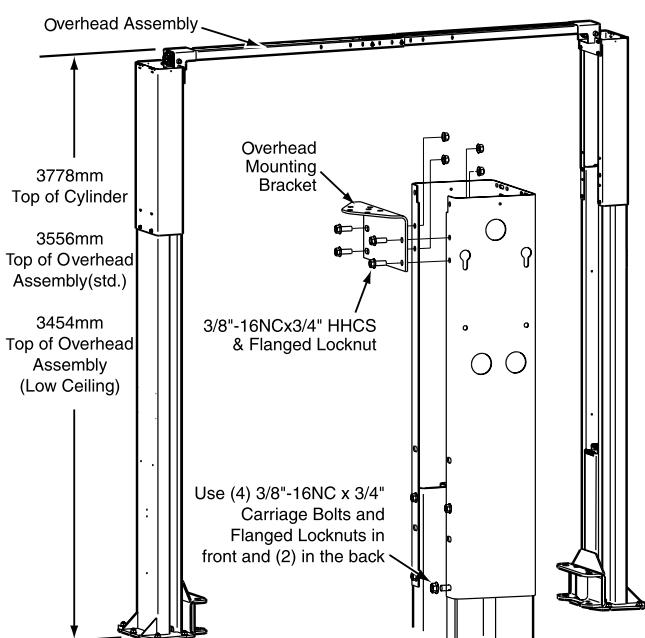

Fig. 2
See Fig. 2 for overall lift height of each specific lift model. Add 25mm to overall height to lowest obstruction.
Before standing columns upright, install the column extensions using (12) 3/8"-16NC x 3/4" Carriage HHCS and Flanged Locknuts, Fig. 2 and Fig. 3.
Overhead Mounting Bracket: Install Mounting Brackets to column extensions, Fig 2.